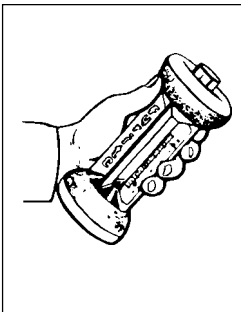

Figure 9
8. Hold FYRITE at 45° angle (Fig. 9) momentarily to allow fluid droplets to drain into the bottom reservoir.